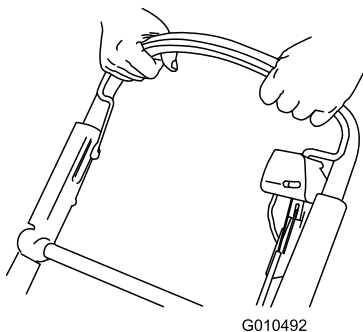

Figure 21
2. Hold the blade-control bar against the handle (Figure 21).